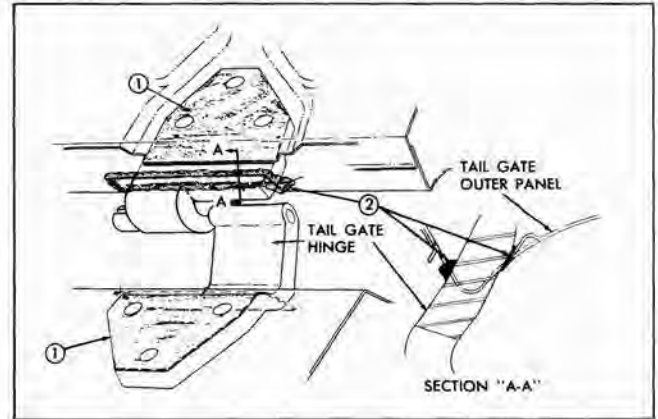

Fig. 5-12 Tail Gate Hinge
9. To install, reverse removal procedure. Prior to installation clean off old sealer from hinge straps and apply a coat of heavy bodied sealer to attaching surface of hinge straps (Fig. 5-12).
Apply body caulking compound between hinge strap and hinge strap opening in tail gate panels (Fig. 5-12) to effect a watertight seal.
4. To install tail gate hinge assembly, reverse removal procedure. Prior to installing hinge, coat attaching surface of hinge with heavy-bodied sealer ("1" in Fig. 5-12). Install tail gate assembly as described under "Tail Gate Assembly - Installation".